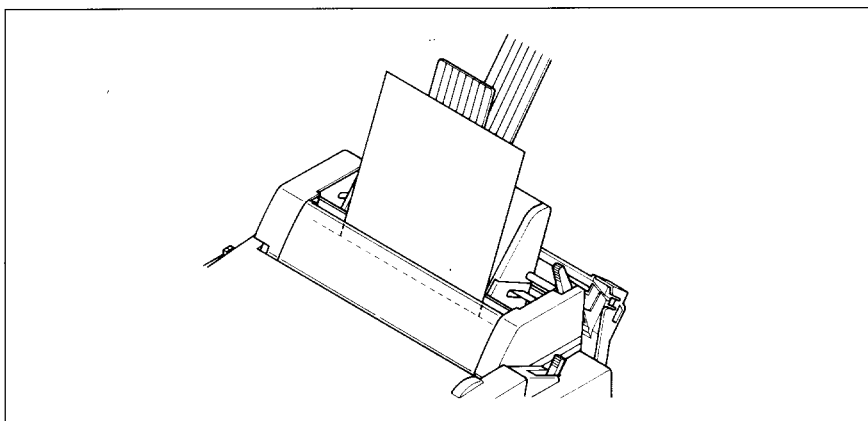

Figure 7-11. Insert a single sheet into the slot at the front of the stacker attachment.
1. Set the paper by inserting into the slot at the front of the stacker attachment, as shown in Figure 7-11.